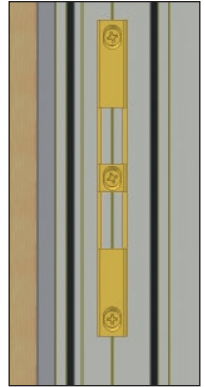

FIG. 22
- C) Adjust keeper if needed. (Fig. 22)